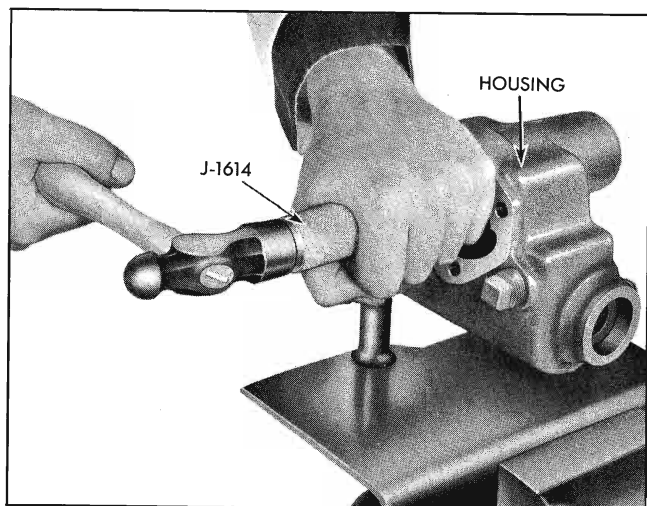

Fig. 9-31 Removing Pitman Shaft Bushing
2. Drive out bushing with tool J-1614 (Fig. 9-31).